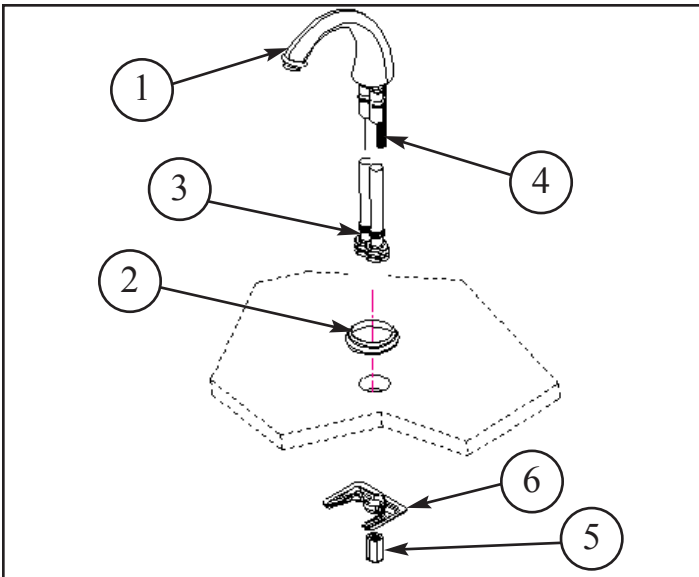

Figure 1
1. Insert HOSES (3) an MOUNTING STUD (4) through ESCUTCHEON (2) and sink hole, (apply putty or silicone to underside of ESCUTCHEON (2)). Align SPOUT (1) and secure into place with mounting BRACKET (6) and NUT (5). See Figure 1.